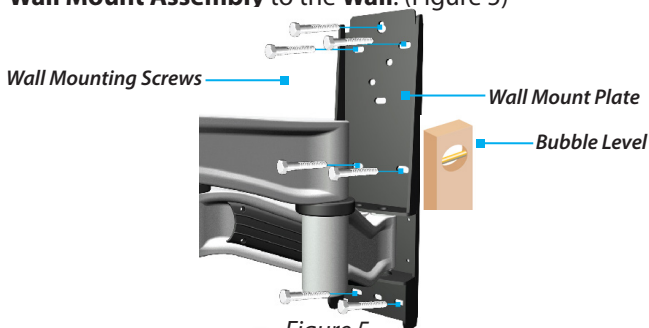

Figure 5
9. Insert the rest of the **Wall Mounting Screws** (x 6) through the **Wall Mount Plate**. Tighten all the **Wall Mounting Screws** (x 7) with the **1/2 in (13 mm) Wrench** to fasten the **Wall Mount Assembly** to the **Wall**. (Figure 5)